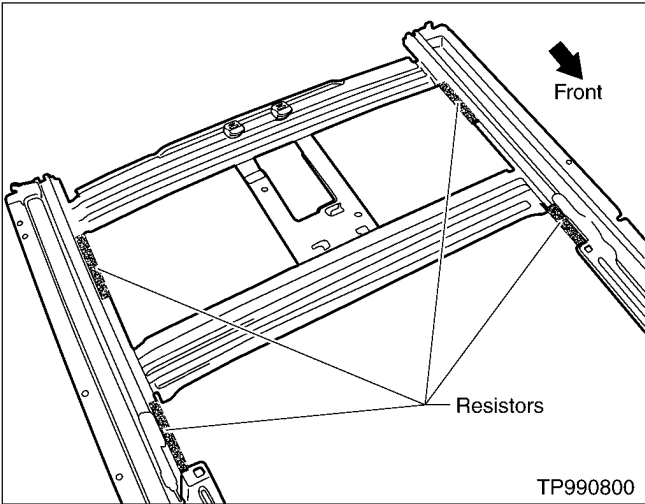

Figure 12
13. Install two additional resistors on the sunroof rail assembly (see Figure 12).